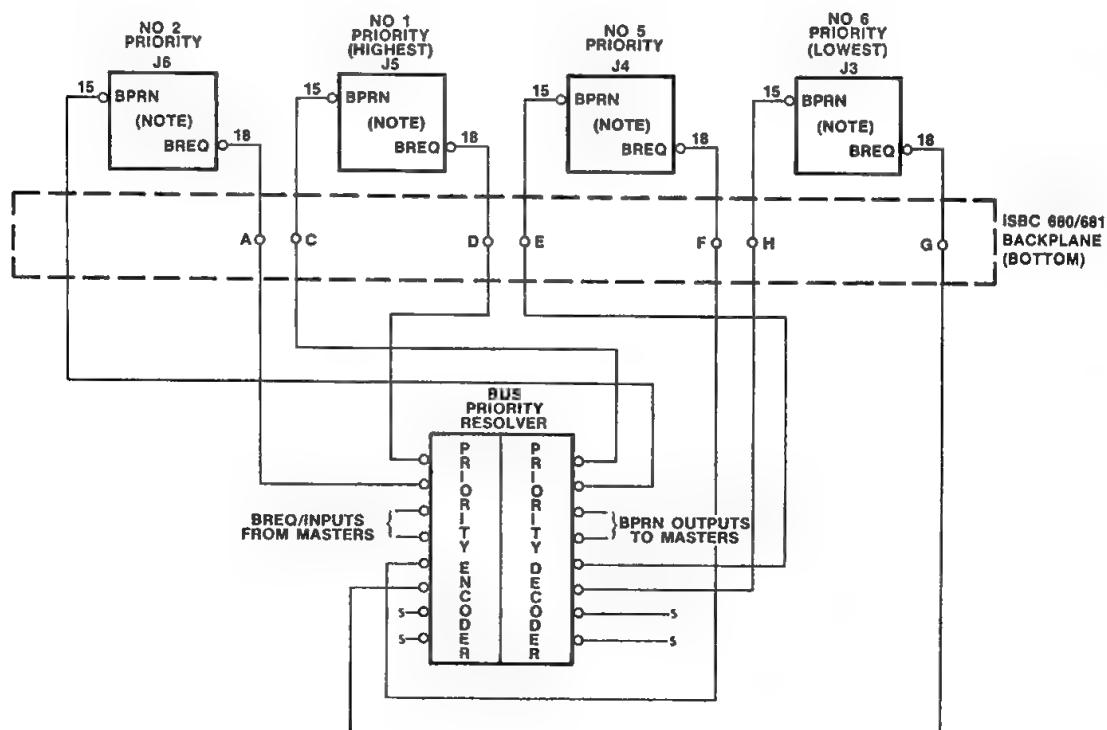
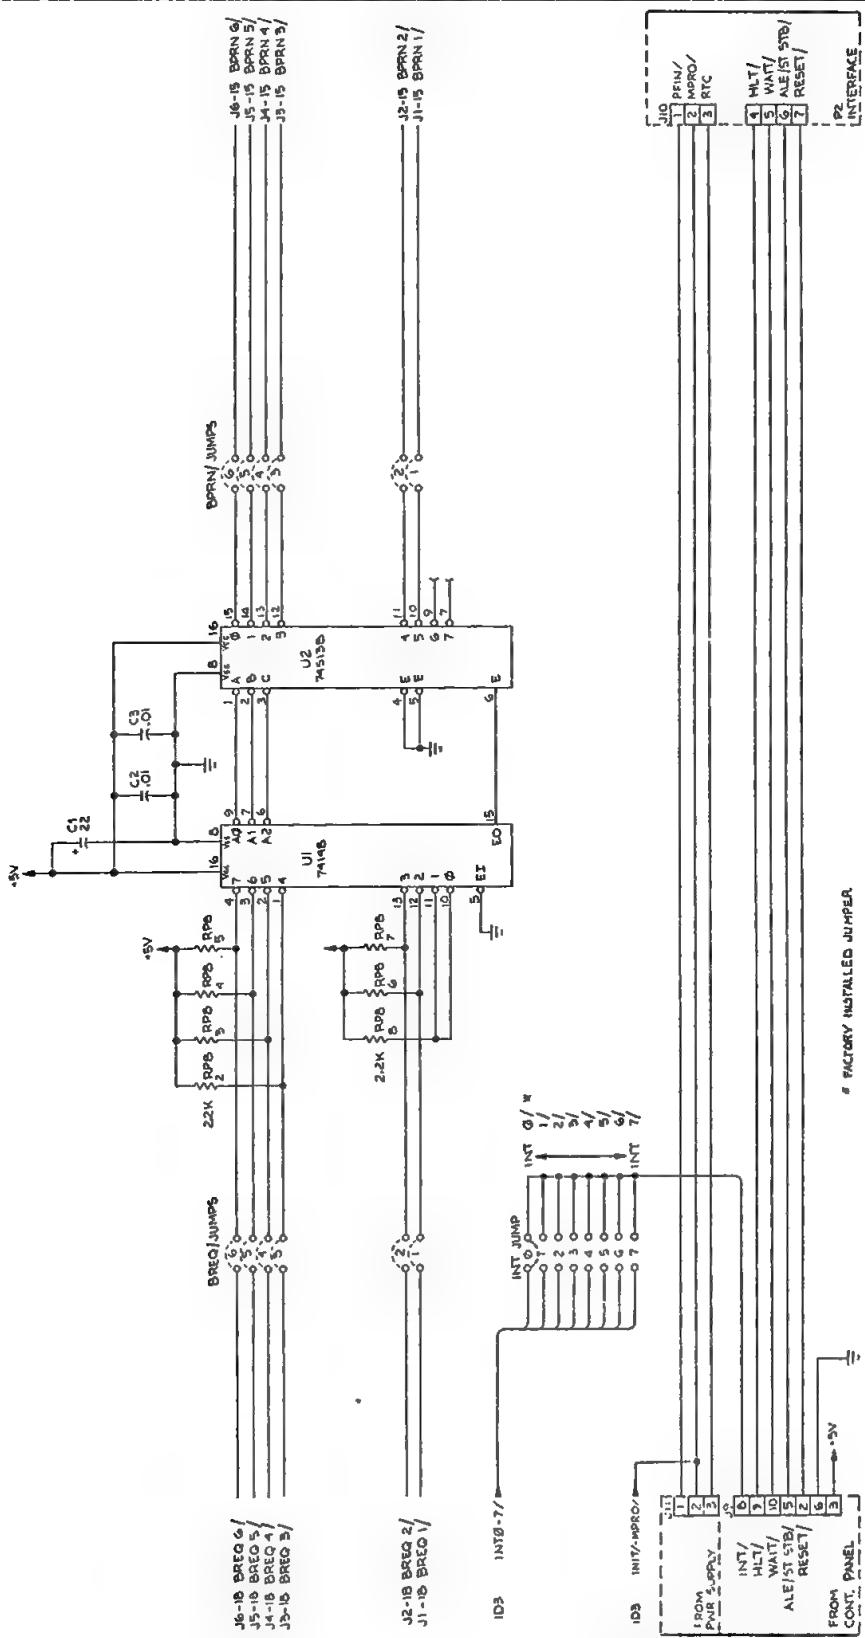
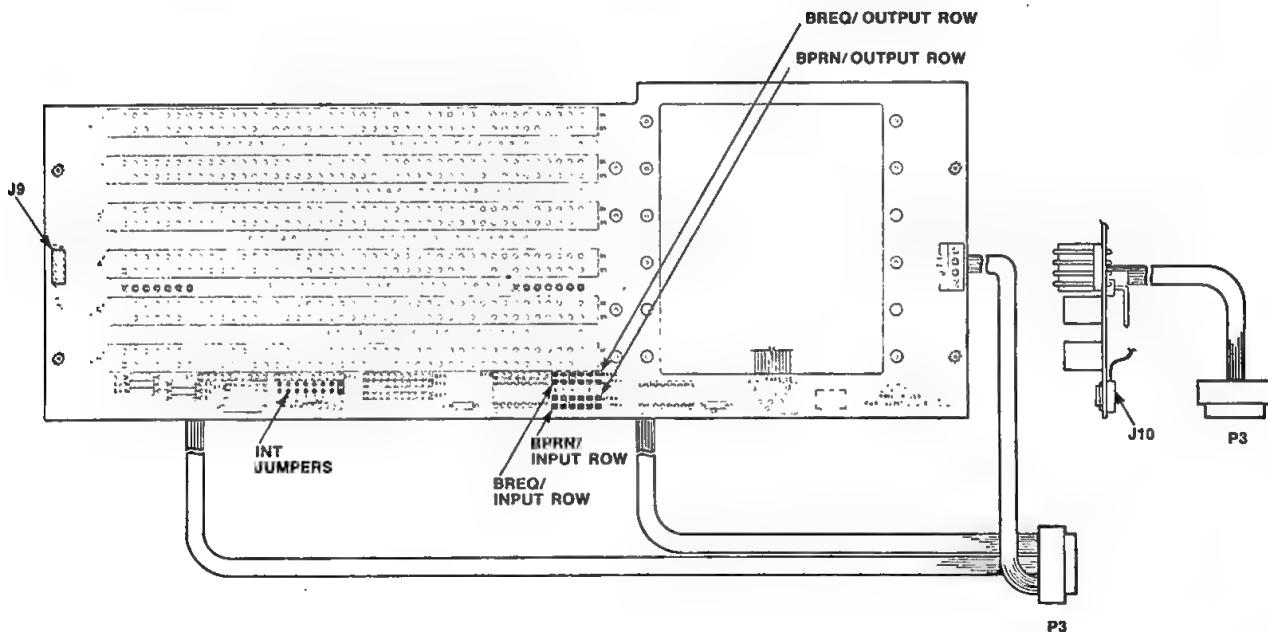

Figure 2-6. Parallel Priority Resolution Technique
Figure 2-7. Bus Priority and Interrupt Wiring Schematic
Figure 2-8. Backplane Jumper Location Diagram
The parallel priority resolution scheme allows up to six bus masters in a single system to acquire and control the Multibus lines. In the parallel priority technique, priority is resolved in a priority resolution circuit in which the highest priority BREQ/ input is encoded with a priority encoder chip (74148). The value is then decoded with a priority decoder chip (74S138) to activate the appropriate BPRN/ line. The BPRO/ lines are not used in the parallel priority scheme and thus are not connected on the backplane. Figure 2-6 illustrates a typical method for resolving bus contention in a system. Figure 2-7 illustrates the wiring diagram for the bus priority resolution scheme used on the iSBC 680/681. The BPRN/, BREQ/ and INT/ jumpers are shown in Figure 2-8. The BPRN/, BREQ/ and INT/ jumpers are shown in Figure 2-8.
- Remove the jumpers on locations 1 and 5 of both the BREQ/ and BPRN/ jumpers, see Figure 2-8.
- Install a wire-wrap jumper from the input of location 1 to the output of location 5 on both the BREQ/ and BPRN/ jumpers, see Figures 2-7 and 2-8.
The input of each location is on the right side of the jumper and the output is on the left side of the jumper, as the operator faces the unit (see figure 2-8).
The Interrupt Pushbutton switch is wired to interrupt level 0 (Multibus P1-41) by the factory. To change the interrupt level it is necessary to change the INT/ (Interrupt Request Line) jumper on the cardcage assembly. The interrupt jumper is changed by removing the current INT/ jumper and replacing it in another INT/ jumper location. The numbers on the cardcage INT/ jumper locations correspond directly to the Multibus P1 Interrupt pins 35 to 42, see Figures 2-7 and 2-8.